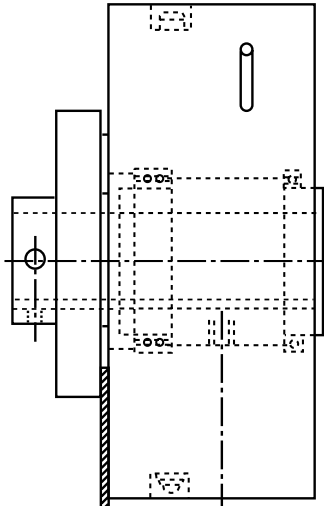

Figure 14
- a. Measure the gap around the periphery between the coupling flange and the clutch housing without rotating the shafts. (See Figure 14).
- a. Measure the gap around the periphery between the coupling flange and clutch housing without rotating the shafts. (See Figure 14)